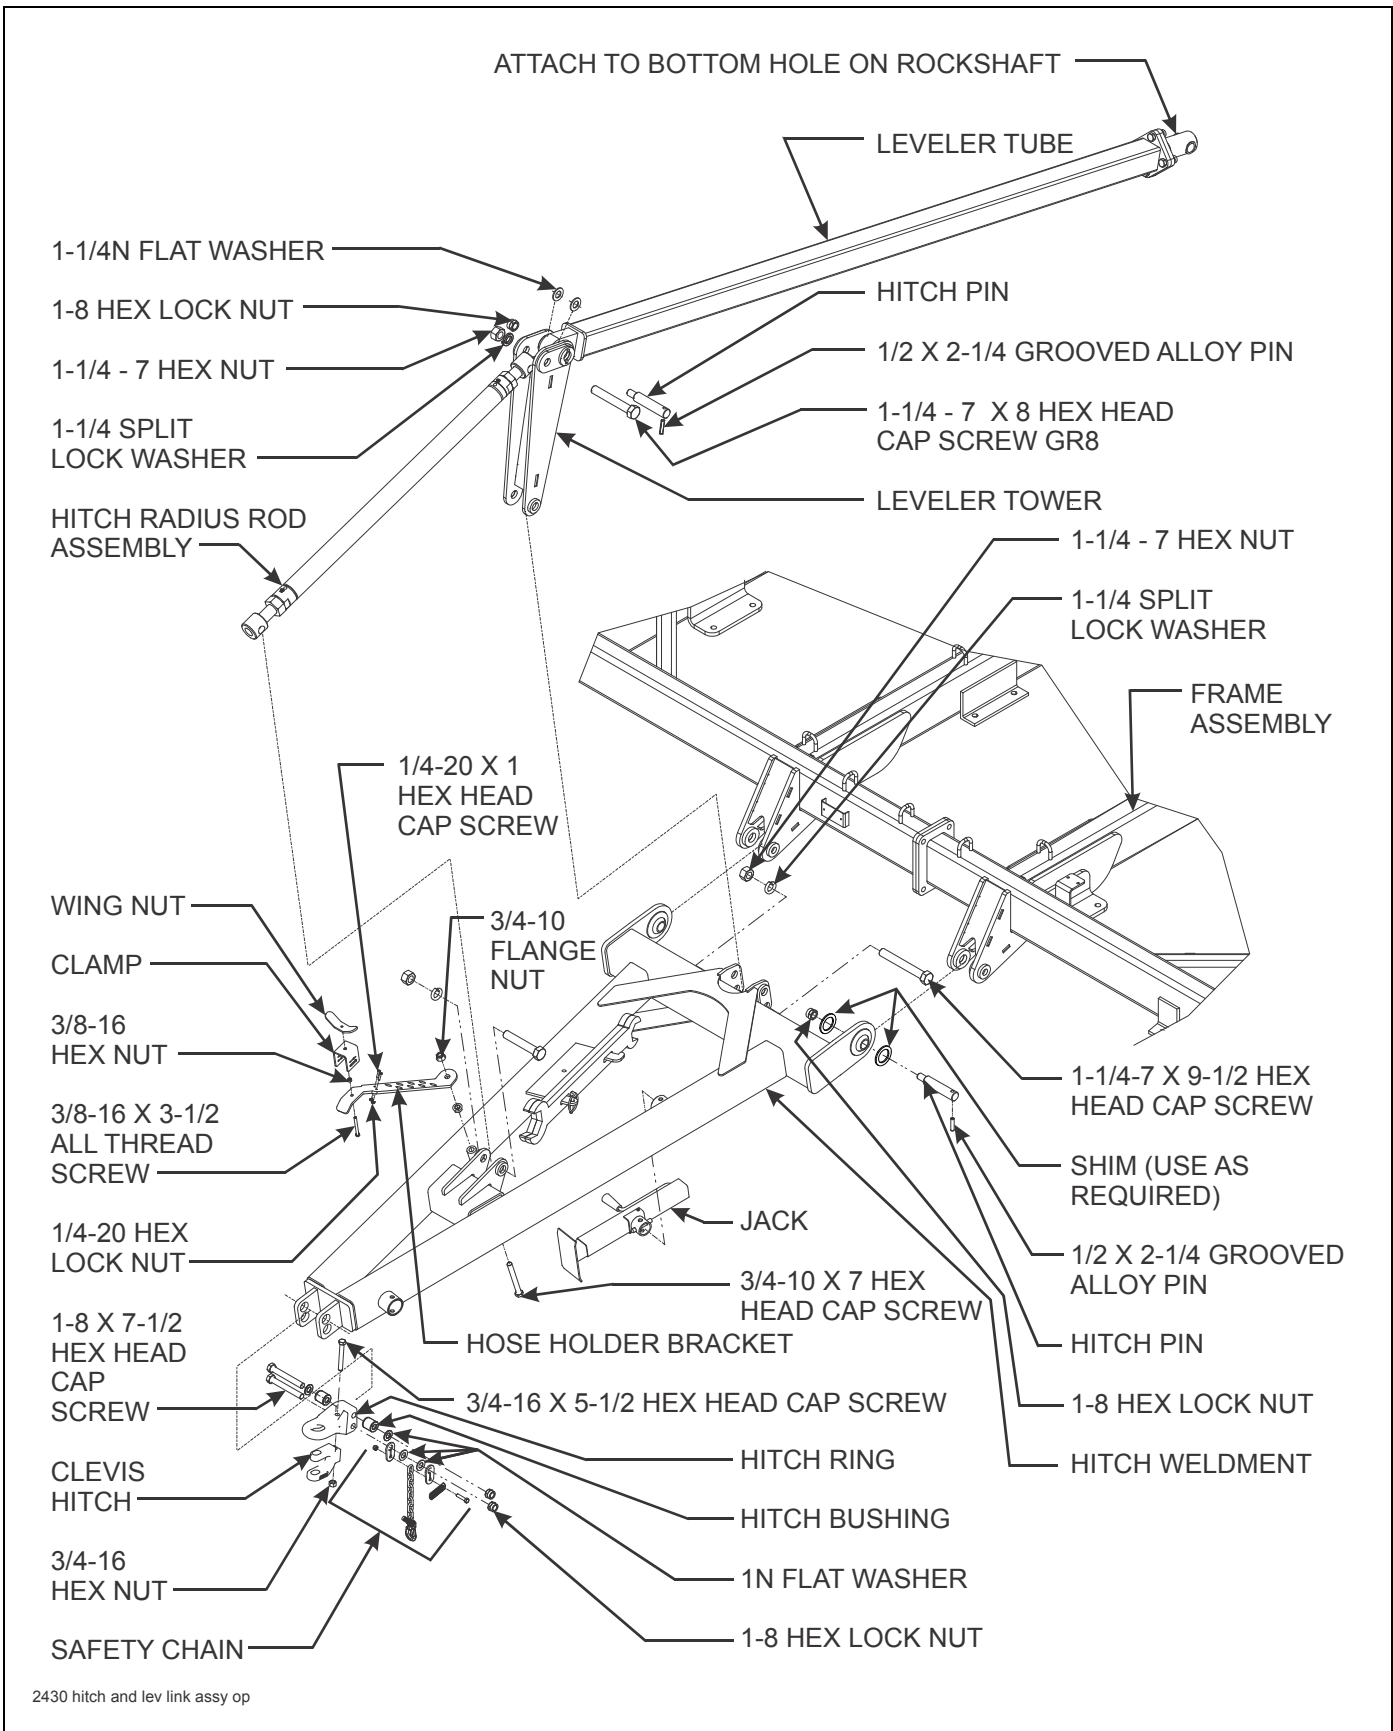

Figure 3-5: Hitch Installation
1. Attach the hitch weldment to the front of the frame using hitch pins, shims, 1-8 hex lock nuts, and 1/2 x 2-1/4 grooved alloy pins (See Figure 3-5.)